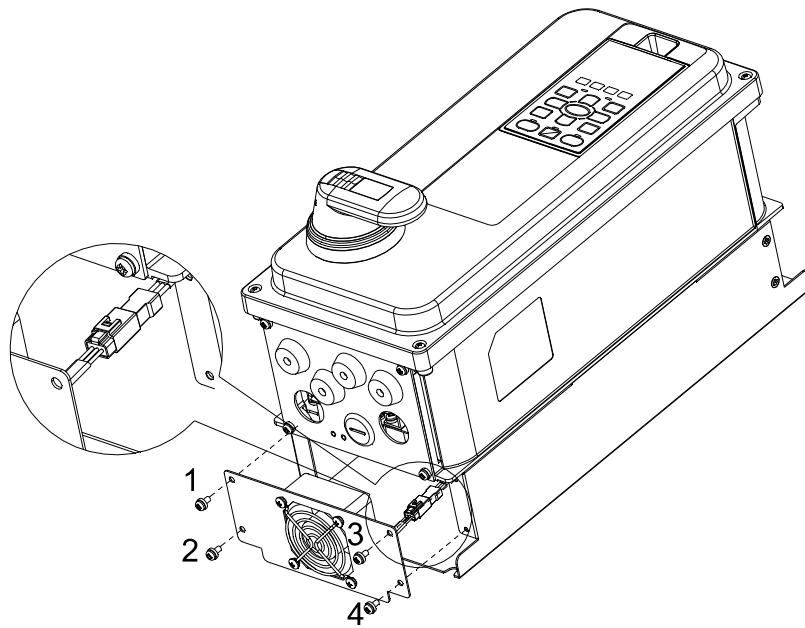

Figure 1
1. Refer to Figure 1, loosen the 4 screws then remove the fan kit.